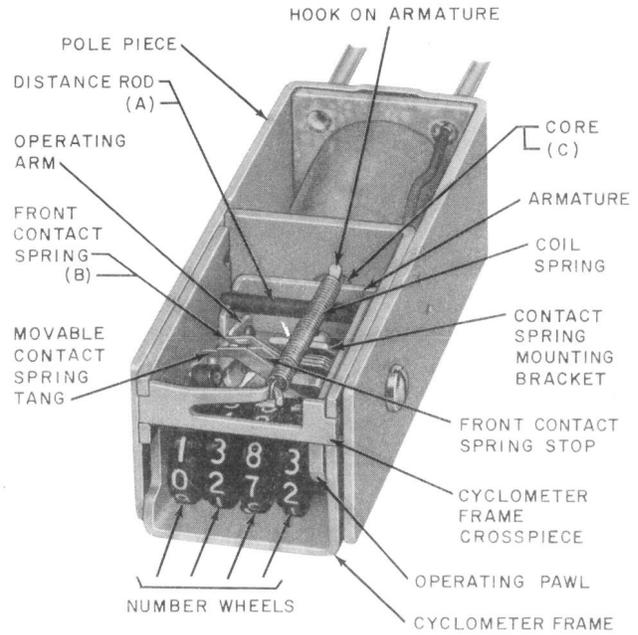

Fig. 7—14-Type Register Having Normally Open Contacts (Initial Design)
(b) The operating pawl (Fig. 7, 8, and 9) shall not touch the cyclometer frame or the side or top of the units wheel either in the operated or unoperated position of the register. This requirement shall be met on every ratchet or star wheel tooth.
(c) **Figure 7, (A):** (Initial Design Only)—The ends of the distance rod shall not bind against the sides of the pole piece.
***2.11 Tension of Front Contact Spring** (Registers Having Normally Open Contacts): Fig. 7, (B)—With the armature in the unoperated position, the tension of the front contact spring against its stop shall be
***2.18 Operated Armature Gap:** Fig. 7, (C)—With the armature in the operated position, the gap between the surface of the armature and the core at the nearest point shall be